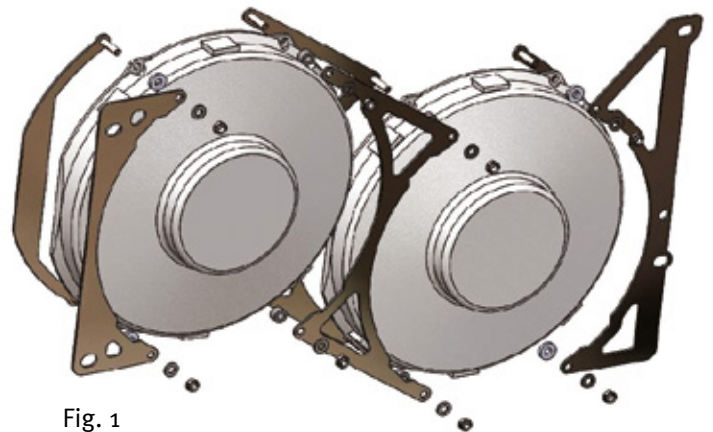

Fig. 1
2. Using Fig.1 as a guide, slide the studs of lower LH bracket (Item 2) through the lugs on the LH fan (Item 7) then slide 2x 3mm spacers (Item 9) onto each lug, then the upper LH bracket (Item 1) and 2x 6mm washers (Item 11) and fix into place using 2x M6 nuts (Item 12).
4. Lay the lower centre bracket (Item 4) on a flat surface and place 2 fan assemblies over the studs to join them together using Fig. 1 as a guide, then slide 4x 7.8mm spacers (Item 8) onto each lug, then the upper centre bracket (Item 3) and 4x 6mm washers (Item 11) and fix into place using 4x M6 nuts (Item 12).